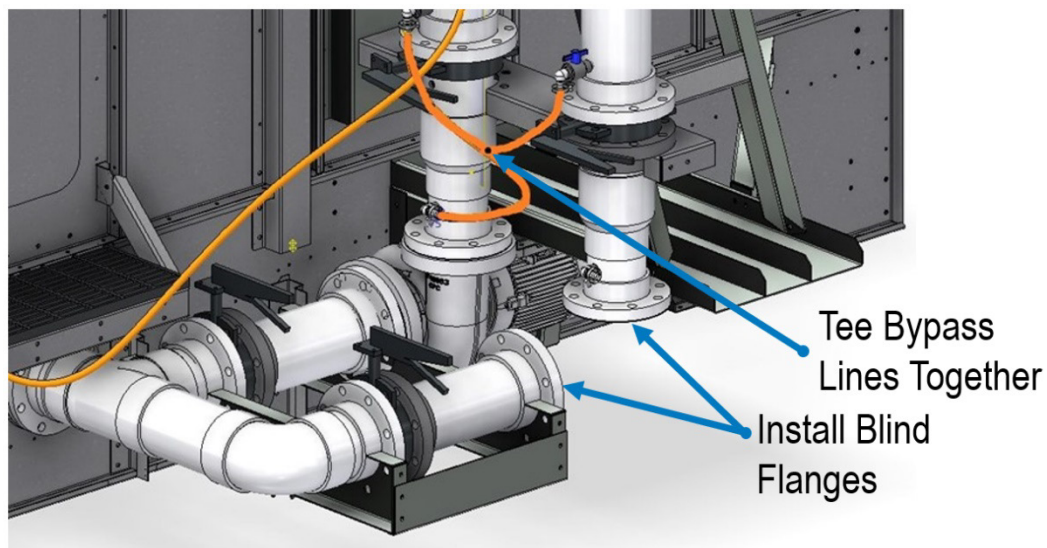

Figure 20. Long Term Pump Removal
6. If the pump will be removed for an extended period install blind flanges with gaskets on the suction and discharge side of the removed pump. Pump flange connection uses 3/4"x3-3/4" hardware. Torque flange hardware to 40 ft-lbs. Do not overtighten. Tee the bypass line of the removed pump into the adjacent bypass line. Open the bypass valve for the removed pump. See **Figure 20**.